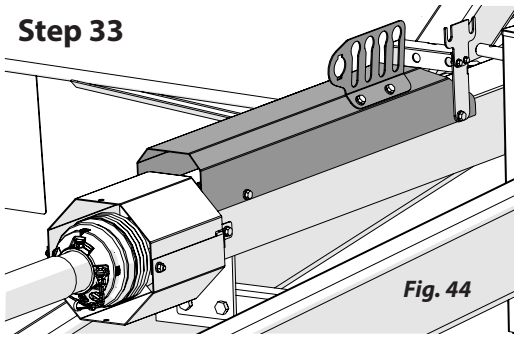
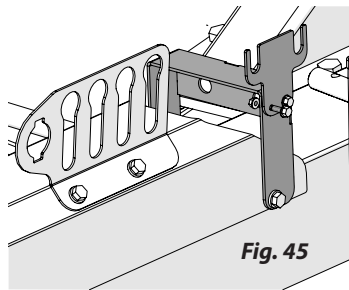

Fig. 44
Fig. 45
- Attach the hydraulic hose holder to the hydraulic hose conduit according to Fig. 44.
- Use (2) M10 x 25 hex bolts.
- Attach the hydraulic hose conduit to the driveline shield according to Fig. 44.
- Use (2) M10 x 25 hex bolts on the front half of the hydraulic hose conduit.
- Use (2) M10 x 25 hex bolts on the back half of the hydraulic hose conduit after lining up the pneumatic bracket as well shown in figure 45.
- Pneumatic hose holder is bolted onto the pneumatic bracket with (2) M6 x 16 hex bolts and nuts.